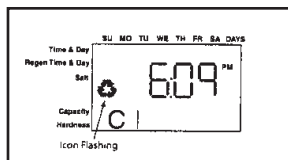

Figure 10
- Push the REGEN button once. The recycle symbol will be flashing on the display (Figure 10). Push the REGEN button again to cancel.